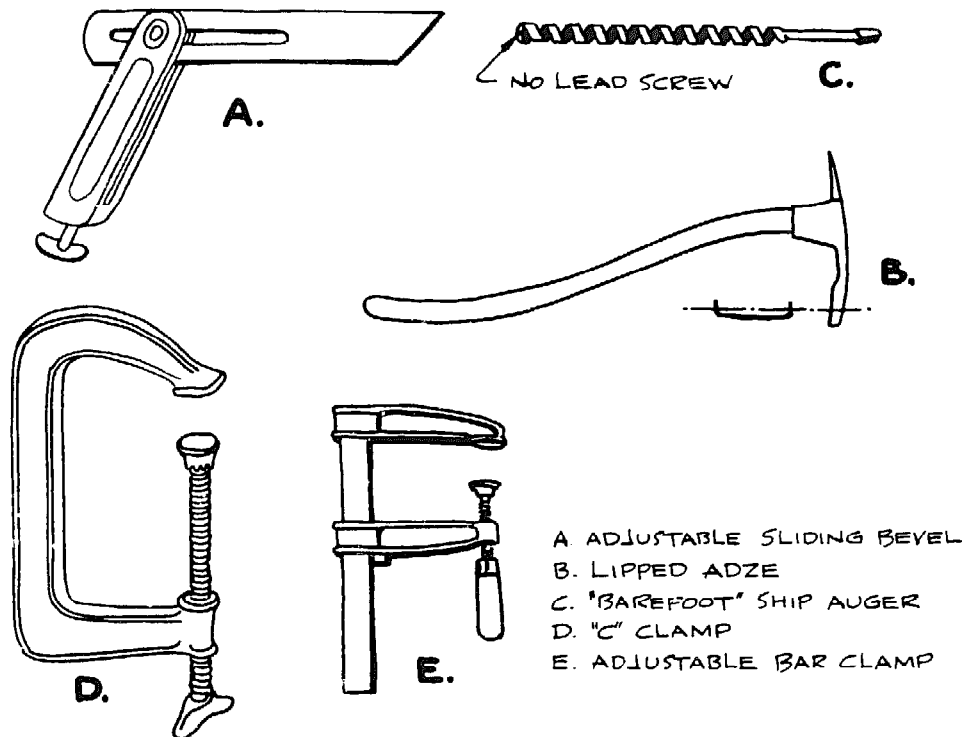

Figure 3-1. A few boatbuilding tools that are not always found in the home workshop.
W.L. Fuller Inc., P.O. Box 8767, Warwick, R.I. 02888. (They sell the "barefoot" wood auger bits shown in Figure 3-1.)